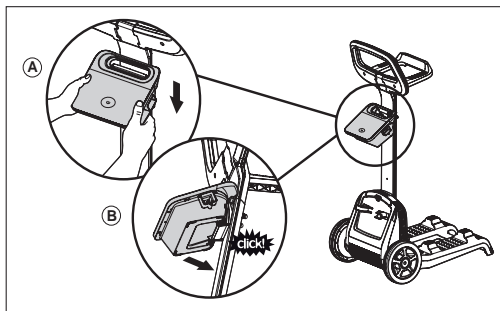

FIGURE 14
1. Hook the power supply's handle over the top lip of the power supply clip. See **Figure 14 (A)**.
2. Tilt the power supply toward the handle support until the power supply snaps into the bottom lip of the power supply clip. See **Figure 14 (B)**.